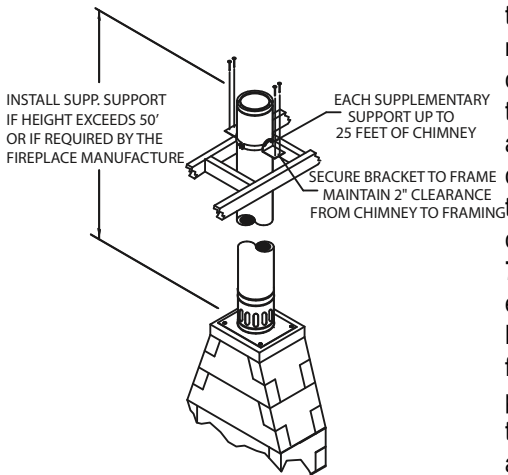
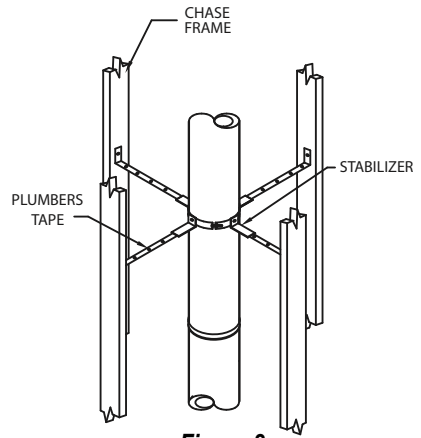

Figure 7
Figure 8
9. Supplementary Support and Stabilizer: Install a Supplementary Support if total chimney height is greater than 50-feet, or if the fireplace manufacturer requires it. If additional support is needed, install one or more Supplementary Supports which can each support 25-feet of chimney (**Fig. 7**). Clamp the Supplementary Support band around the pipe using the nut and bolt provided, and anchor the support to nearby building framing. Always maintain the 2" clearance to combustibles from the chimney pipe. A Stabilizer is available and may be required by some fireplace manufacturers to keep the chimney vertical and help maintain clearances to combustibles within a chase. Clamp the Stabilizer to the pipe using the nut and bolt provided, and secure legs to nearby framing using plumber's tape or guy-wires (**Fig. 8**). Note: the Stabilizer does not support the weight of the chimney, it is only used to keep chimney centered within a chase.